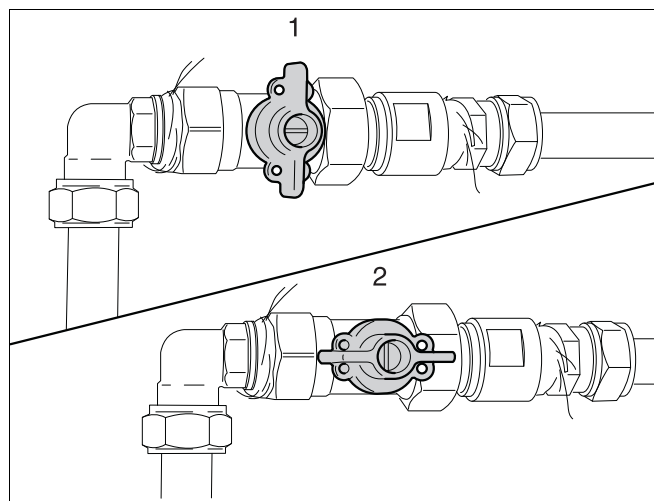

fig. 49 Gas shut-off valve closed (1), gas shut-off valve open (2)
- Open the gas shut-off valve (see fig. 49, pos. 2).